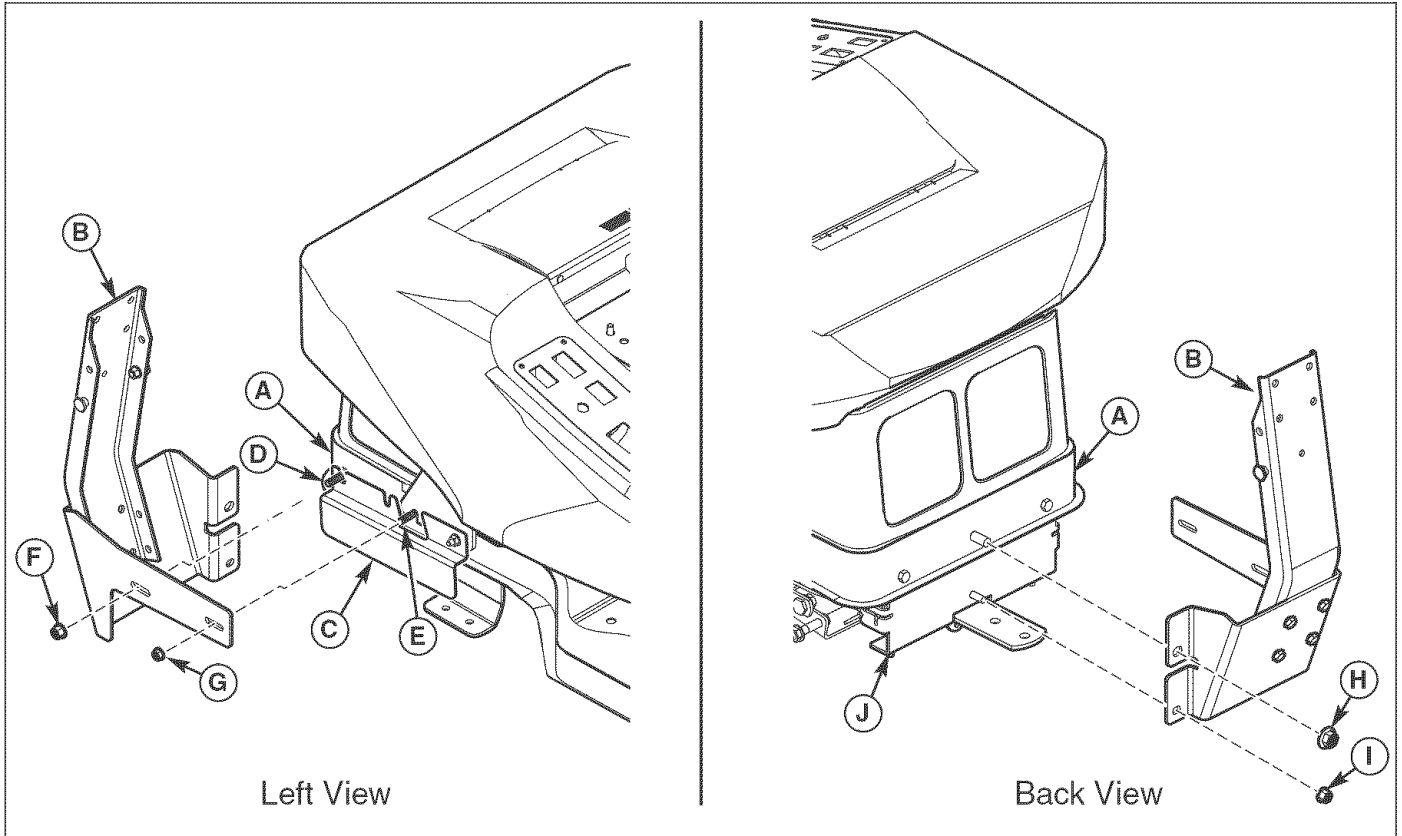

Figure 2. Install Hitch Assembly
1. Remove 5/16-16 nut (G, Figure 2) from seat deck support cap screw (E).
2. Remove 3/8-16 nut (F) from rear debris guard cap screw (D).
3. Remove 1/2-13 nut (H) from rear of frame (A).
4. Remove 3/8-16 nut (I) from rear transmission support (J).
5. Attach hitch assembly (B) to frame (A) sliding rear of hitch flush with frame.
6. Finger tighten 3/8-16 nut (F), 5/16-16 nut (G), 1/2-13 nut (H) and 3/8-16 nut (I).
7. Tighten 3/8-16 nut (F) and 5/16-16 nut (G) first, then 1/2-13 nut (H) and 3/8-16 nut (I).